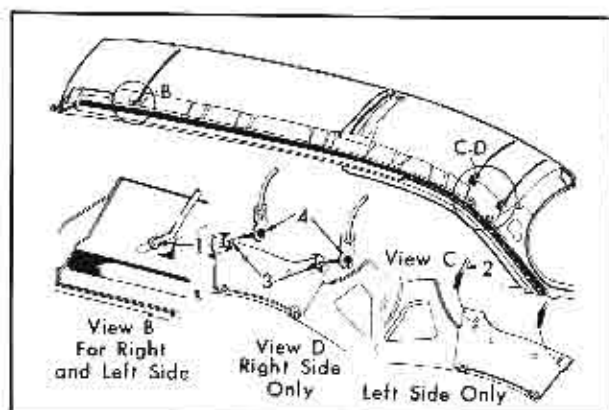

Fig. 3-76 Removing Headlining Support Wire (6237DX)
4. Detach the headlining front support wire by pulling the wire out of the metal thimbles which are inserted in the holes of the right and left side of roof rails. View "B", Fig. 3-76.
5. Detach the two (2) headlining rear support wires by loosening the two (2) clips along the right side roof rail and lifting the support wires from the clips. Then lift the support wires out of the holes in the left side roof rail. View "C" and "D", at 2, 3, 4, Fig. 3-76.